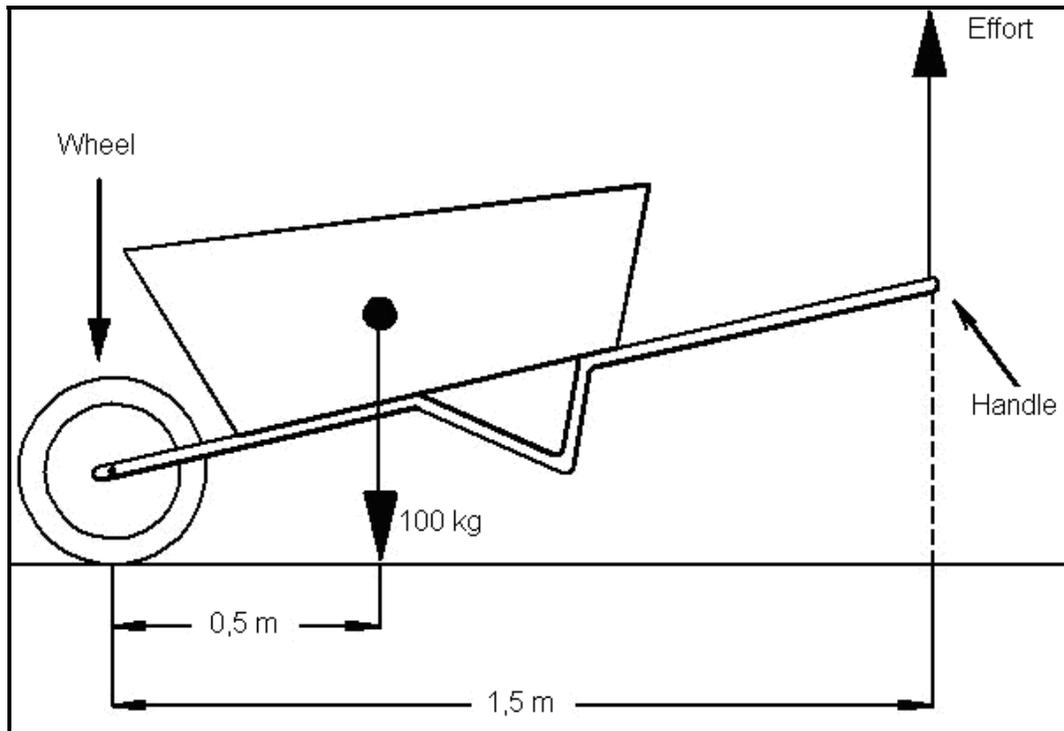

FIGURE 2.2
- 2.2 The Agricultural Science learners in your school are given the task to prepare an area to plant carrots. Sipho uses the wheelbarrow to transport 100 kg of manure from the storeroom to this area. The load is positioned 0,5 m from the centre of the wheelbarrow wheel (fulcrum). The total distance of the centre of the wheel to the end of the handle (effort) is 1,5 m, as illustrated in FIGURE 2.2.